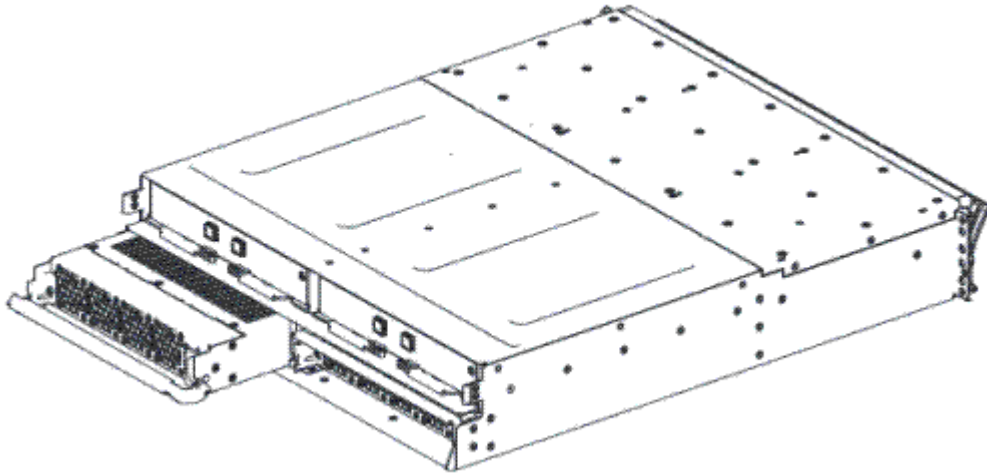

Figure 73. Removing the power supply unit from the left side of the enclosure
7. Using the handle, gently slide the power supply out of the enclosure, as shown in Figure 73 on page 112.